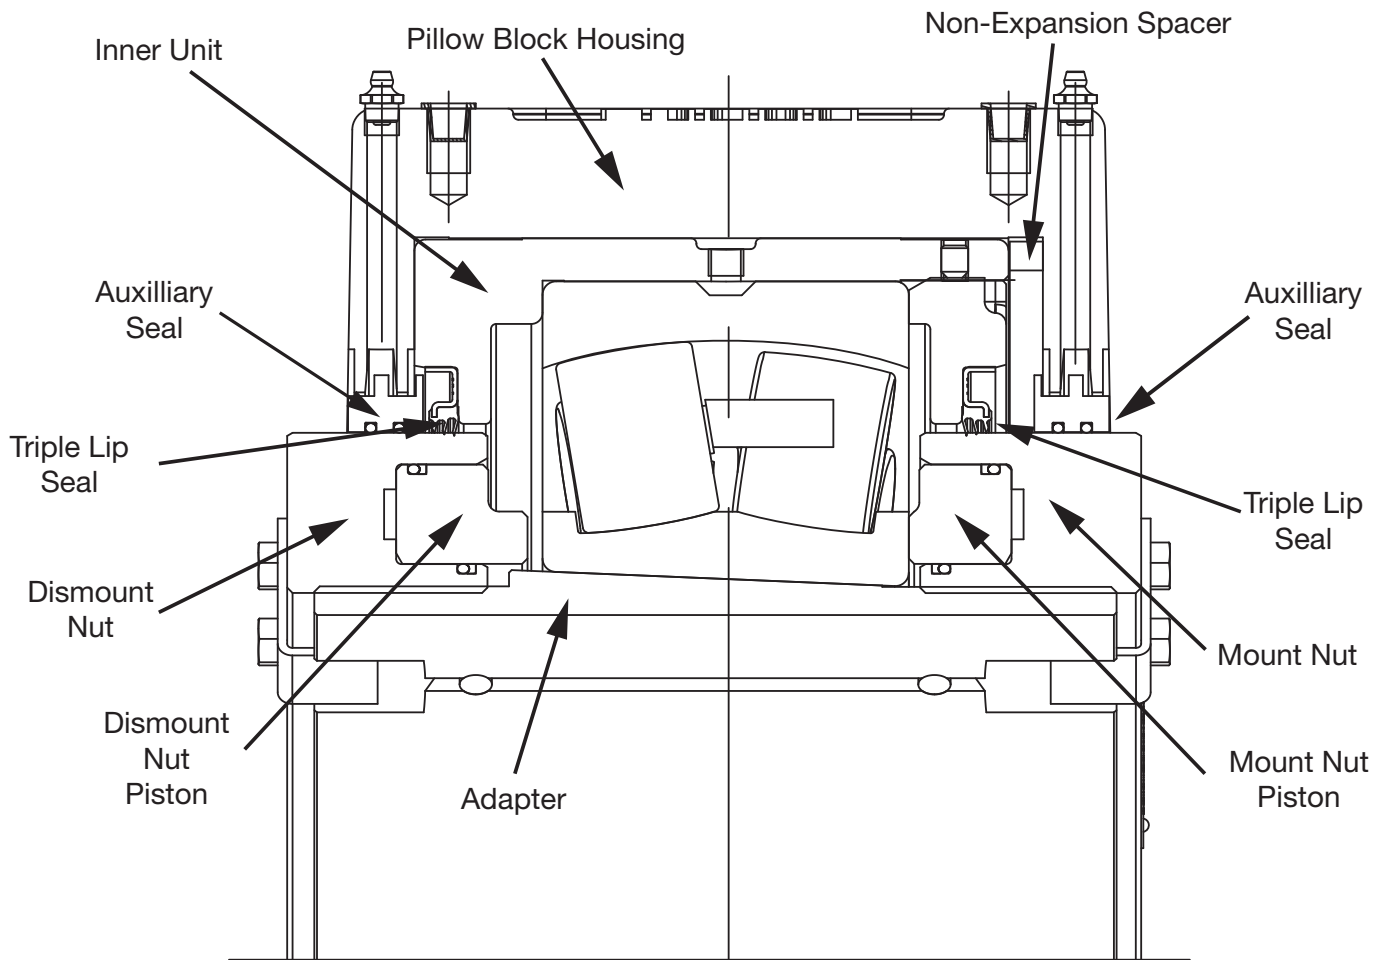

Figure 3 - Cross Section
4. Rotate Dismount Nut counter clockwise two full rotations. The Dismount Nut must remain loose during the mounting procedure but should never be removed. Without loosening the dismount nut, the dismount unit piston will make contact with the bearing unit as it travels up the adapter. (See Figure 3) This will not allow the bearing to move up the adapter and tighten properly.
4. Incorporating a spanner or drift and hammer, rotate the Mount Nut counter clockwise two full rotations. The Mount Nut must remain loose during the dismounting procedure, but should never be removed. Without loosening the mount nut, the mount nut piston will make contact with the bearing unit as it travels down the adapter. (See Figure 3) This will not allow the bearing to move down the adapter and loosen from the shaft properly.